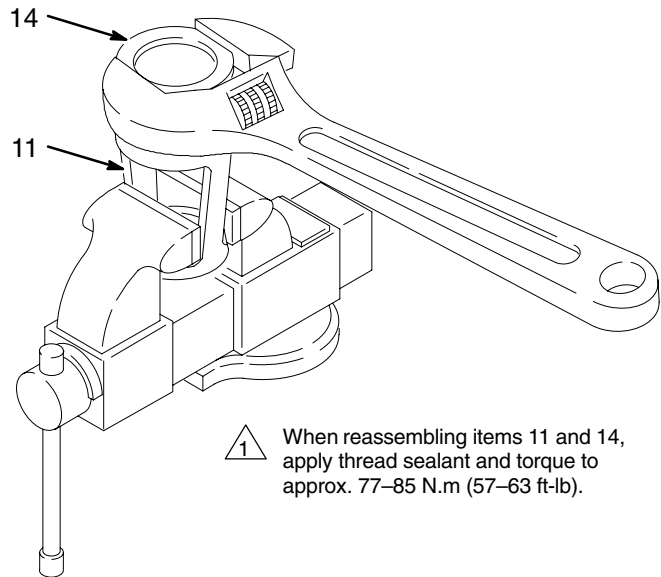
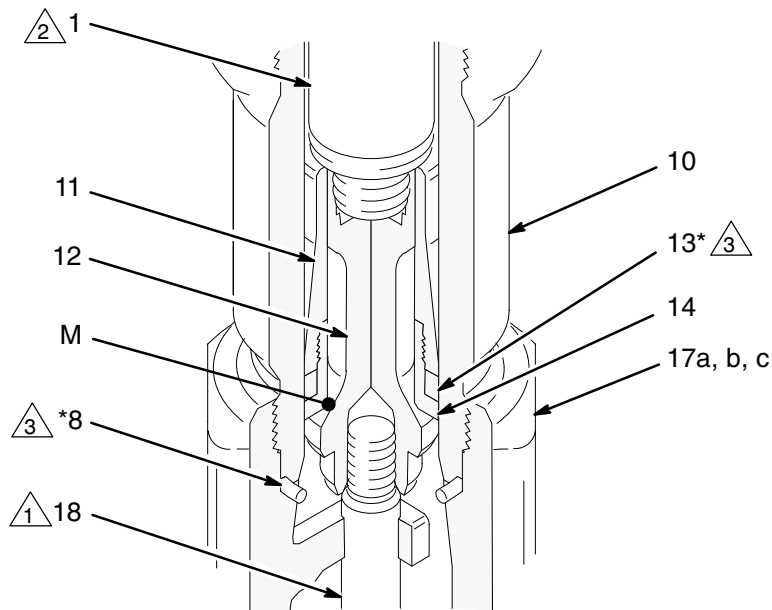

Fig. 11
Fig. 12
9. Remove the seal (8) from the bottom of the cylinder (10). See Fig. 12. Shine a light into the cylinder to examine the inside surface for scoring or damage. **Only if the cylinder is damaged, or there is evidence of leaking around the top cylinder seal (8),** unscrew the cylinder from the outlet housing, using a pipe wrench. Remove the top cylinder seal.
10. Place the flats of the displacement rod (1) in a vise. Unscrew the piston (12) from the displacement rod; the priming piston rod (18) will come with it. Slide the piston guide (11) and seat (14) off the piston (12).
11. It is not necessary to remove the priming piston rod (18) from the piston (12) unless your inspection reveals damage to either part. To disassemble, place the piston flats in a vise and unscrew the rod.
12. Place the piston guide (11) in a vise, as shown in Fig. 11. Using an adjustable wrench, unscrew the piston seat (14) from the guide. Remove the seal (13); always replace it with a new one. Inspect the mating surfaces (M) of the piston (12) and piston seat (14) for damage or wear. See Fig. 12.
2. With the beveled side facing up, press the intake valve seal (39*) into the recess of the intake valve packing nut (15) until it snaps into place. The nose of the seal should be flush with or slightly recessed into the face of the packing nut.
3. Place the flats of the valve body (16) in a vise. Screw the packing nut into the valve body hand-tight. Set the intake housing assembly aside.
4. Lubricate the piston seal (13*) and install it on the piston seat (14). Apply thread sealant to the threads of the seat and the piston guide (11). Screw the guide onto the seat (14). Place the guide in a vise as shown in Fig. 11 and torque the seat to 77–85 N.m (57–63 ft-lb).
5. If it was necessary to remove the priming piston rod (18) from the piston (12), place the flats of the piston in a vise. Using an adjustable wrench on the flats of the rod, screw the rod into the piston. Torque to 125–139 N.m (92–102 ft-lb). Be careful not to create burrs on the flats of the rod.
6. Place the piston seat/guide assembly onto the piston (12) so the 45° beveled seating surfaces match. Screw the displacement rod (1) into the piston (12) hand tight, then torque the rod to 324–368 N.m (239–271 ft-lb).
-  Optional Displacement Pump 237945 uses all PTFE v-packings (item 24).
-  1 Piston check valve (see Fig. 12).